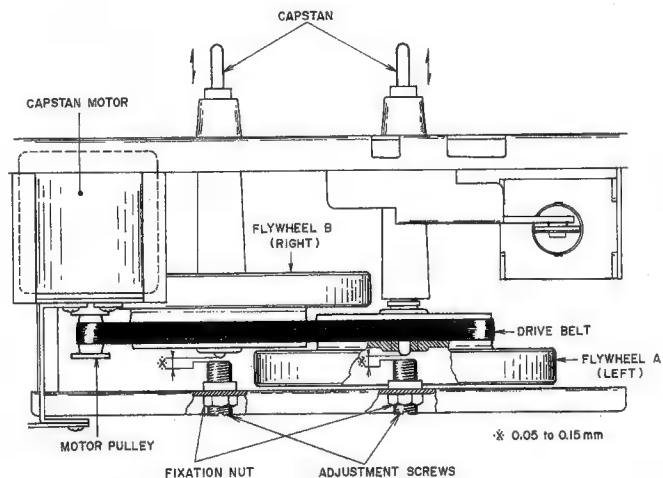

Fig. 4 Flywheel Thrust Loose Play Adjustment
1. FLYWHEEL THRUST LOOSE PLAY ADJUSTMENT (Refer to Fig. 4)